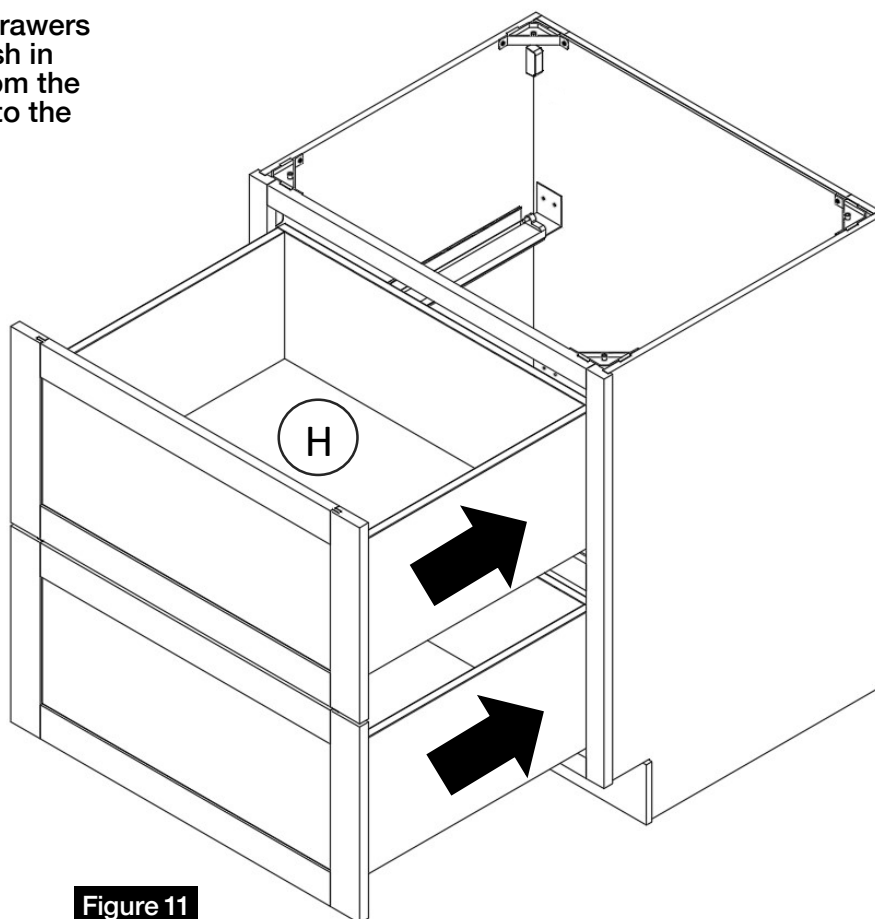

Figure 11
Insert the assembled drawers (H) onto the glides. Push in until you hear clicks from the drawer clips locking into the glides. (Figure 11)